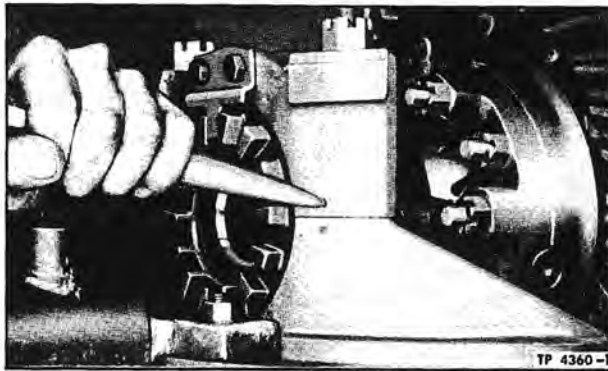

Figure 6—Bearing Cap Alignment Marks
1. Remove lock wire from adjusting ring lock retaining bolts (7), then remove locks (6).
2. Remove lock wire from differential side bearing cap bolts. Remove bolts and washers. Make certain that bearing caps (45) and carrier are marked (fig. 6) before removal; then remove side bearing caps (45). Remove side bearing adjusting rings (8). Lift differential assembly with cups (44) from carrier.